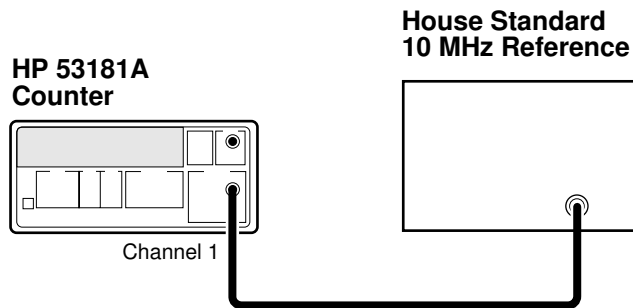

Figure 2-7. Standard Timebase Calibration Setup
- 1 Connect the output of a 10 MHz house standard to Channel 1 of the Counter as shown in Figure 2-7.
- 1 Connect the output of a 10 MHz house standard to Channel 1 of the Counter as shown in Figure 2-7.**